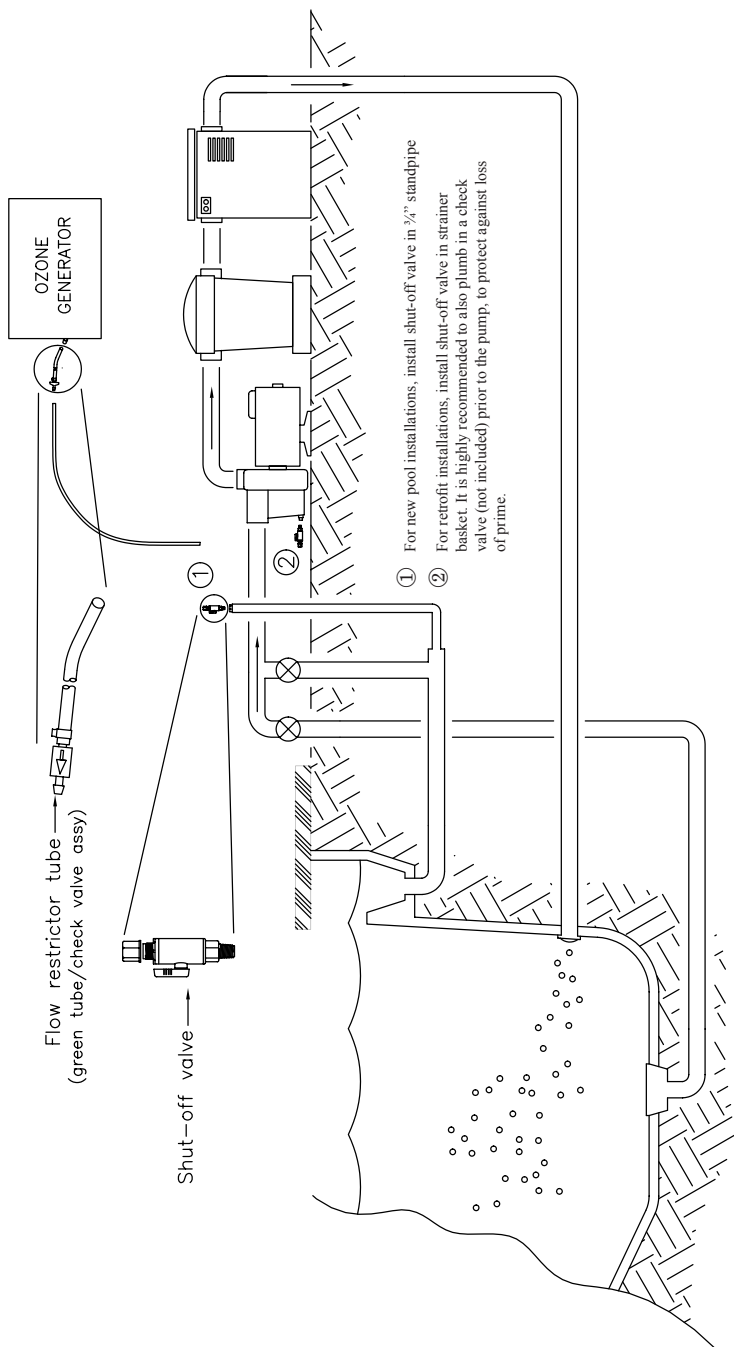

Figure 1: Installation Diagram
2. With the pool circulation system off, install the supplied ball valve (see figure 1 for two options).
3. Attach flow restrictor tube to your ozone generator (see Figure 1). Ensure that the arrow on the check valve (in the flow restrictor assembly) is pointing towards the direction of suction (away from the ozone generator). Use the clear tubing to connect between the flow restrictor barb end and the barb fitting on the shut-off valve. Trim and discard any excess tubing.